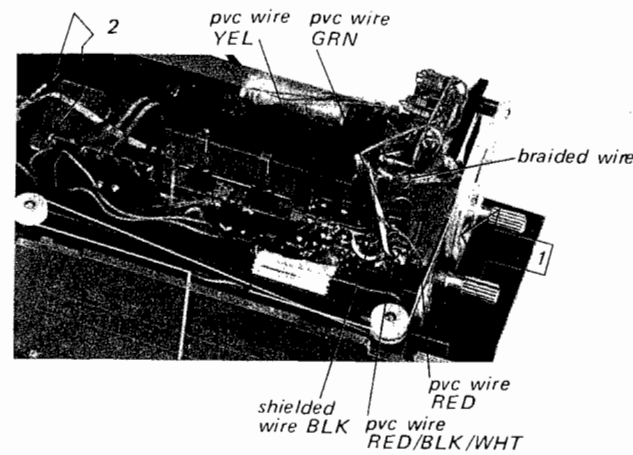

Fig. 2-6
2. Unsolder the six wires shown in Fig. 2-6.